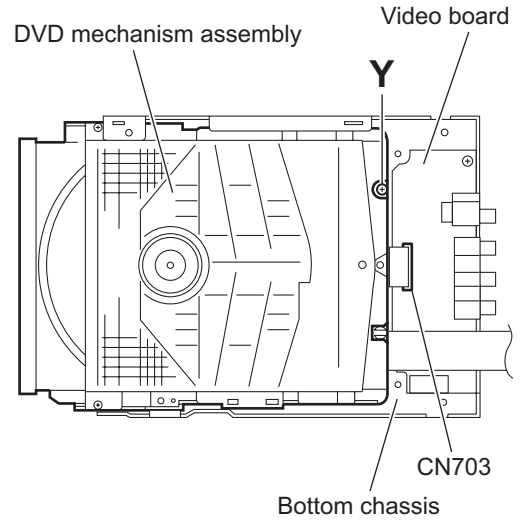

Fig.27
- Disconnect the card wire from the connector **CN703** on the video board. (See Fig.27.)
- Remove the screw **Y** and take out the DVD mechanism assembly from the bottom chassis. (See Fig.27.)